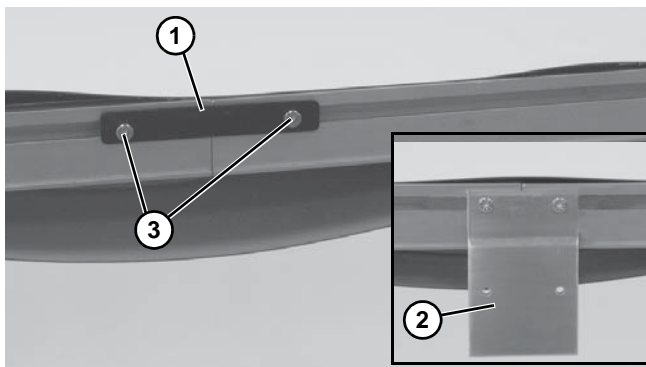

Figure 8
4. Join conveyor sections and install frame connector plates (**Figure 8, item 1**) or connector/mount brackets (**Figure 8, item 2**) and screws (**Figure 8, item 3**) on both sides as indicated. Tighten screws to 7 Nm.